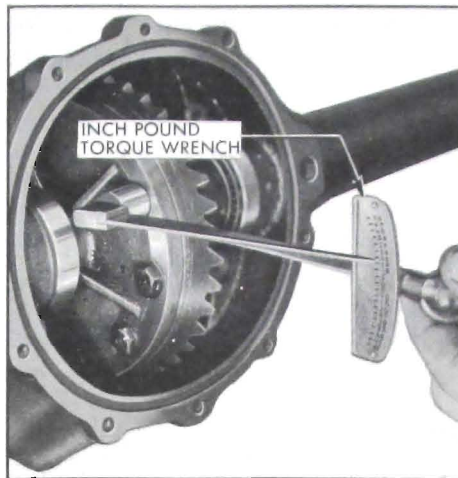

Figure 6-21—Checking Differential Bearing Preload
4. Rotate differential case several complete turns to seat bearings. Check bearing preload using an inch pound torque wrench connected at ring gear attaching bolt. With wrench projecting approximately straight out, bearing preload should read 20 to 30 in. lbs. with new bearings, or 10 to 20 in. lbs. with reused bearings. See Figure 6-21. If preload is not according to these specifications, increase shim thickness on each side .002" for each added 10 in. lbs. preload desired, or decrease shim thickness .002" on each side for each 10 in. lbs. preload to be subtracted.